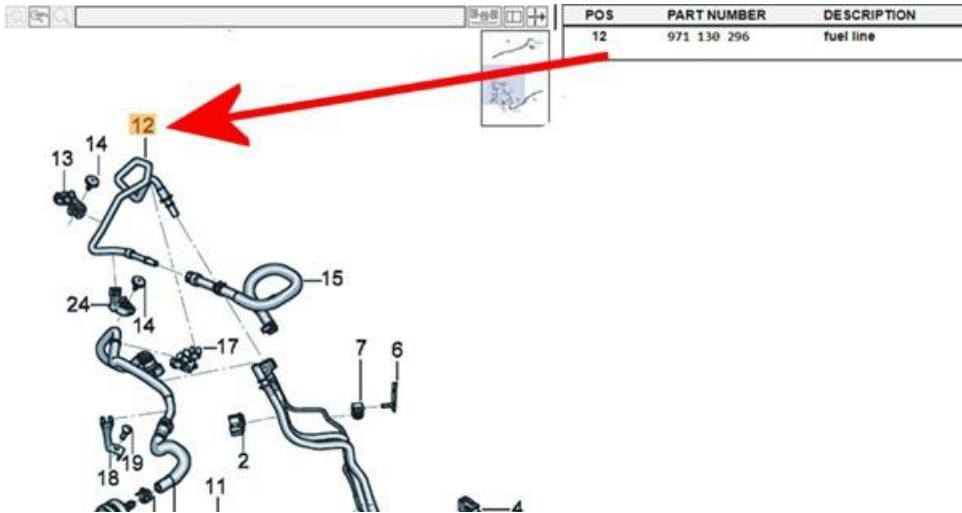

Figure 2
- 2) Referring to Figure 2 (Item 12) remove the fuel line shown
- In the event the fuel line is blocked/restricted - Replace the fuel line as shown in Figure 2 (item 12) ensuring all Rep.Gr guidelines are strictly adhered to